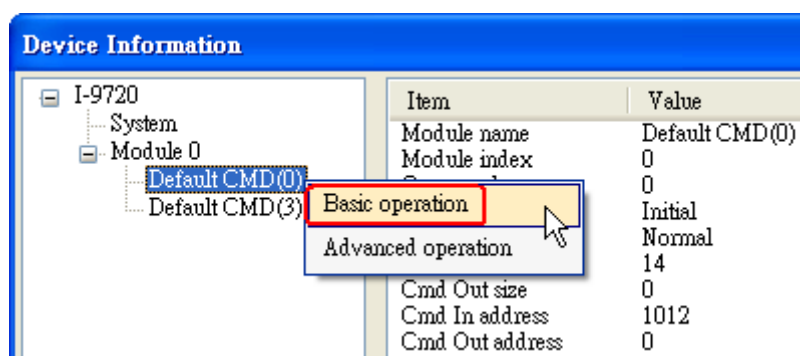

Figure 2-2 : The “Basic operation” of the “Default CMD(0)”
(2) Right click the button of mouse on the “Default CMD(0)” item and choose the “Basic operation” option to open the “I/O Data” screen of the “Default CMD(0)” (Figure 2-2).